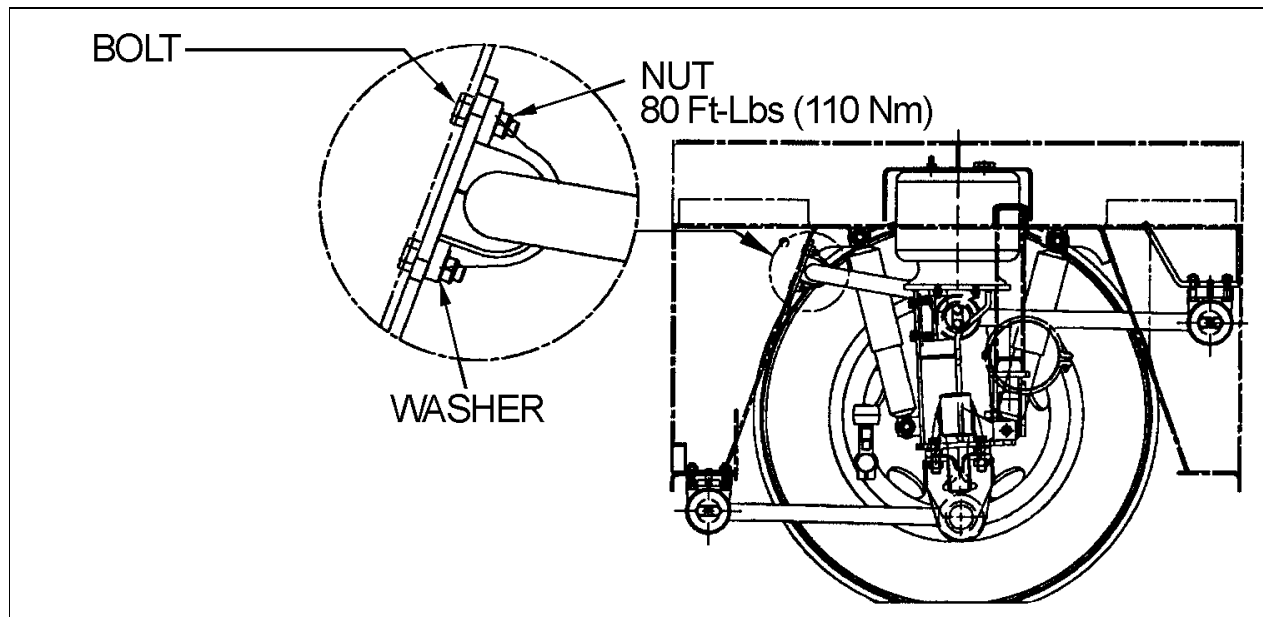

FIGURE 2: H3 COACHES EQUIPPED WITH I-BEAM FRONT AXLE
2. Unscrew bolt then install a washer (955897) underneath each front or rear sway bar collar bolt referring to figures 2, 3 and 4 for parts location.
Note: The nuts securing the rubber bushing collars must be installed on the collar side (oval hole) in the case of independent front suspension sway bar and I-beam front axle sway bar (refer to figures 2 and 4).